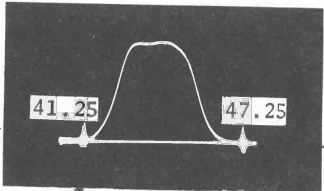

FIG. 1
47.25MC	Adjust L204 for MINIMUM. Fig. 1